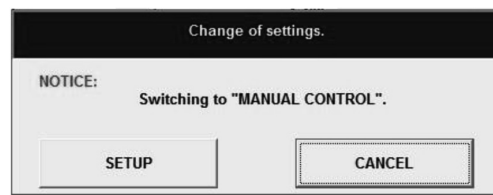

Fig.38
- ④ Clicking on "SETUP" brings up a message box as shown in Fig. 38.